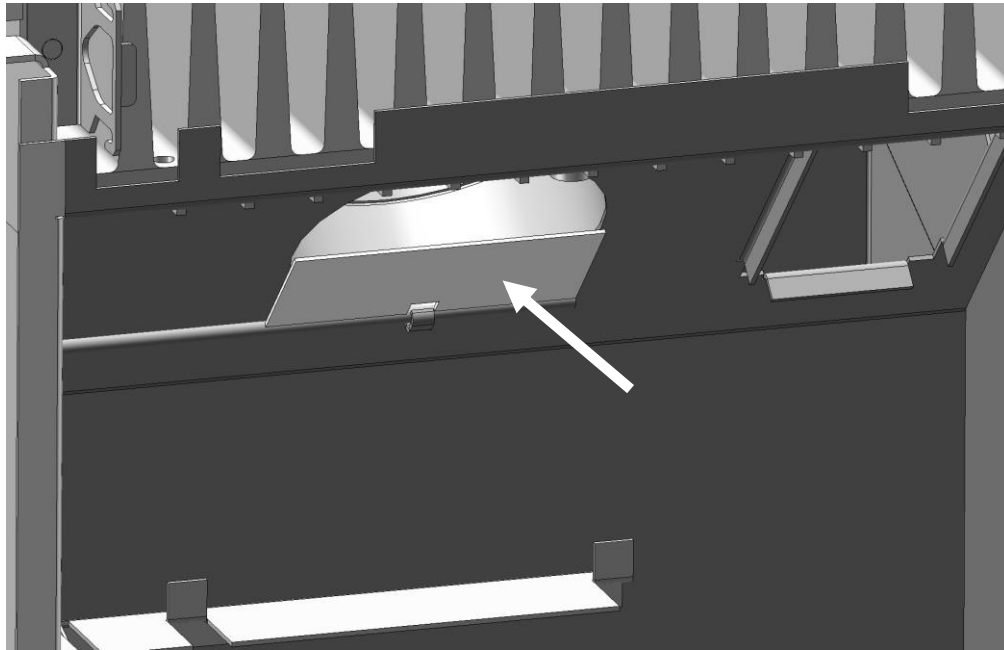

Figure 19 - Restrictor Fully Closed Detail (baffle removed for clarity)
- Vertical terminations may require additional restriction in order to perform as intended. Please refer to Figures 19 - 21 to adjust your vent restrictor accordingly
The restrictor plate is used to control excess draft if necessary. Controlling the draft also changes the aesthetics of the flame. The restrictor plate has a large range of unlimited settings (see *Figures 19 & 20*). The adjustment point is on the left side of the firebox (from front).